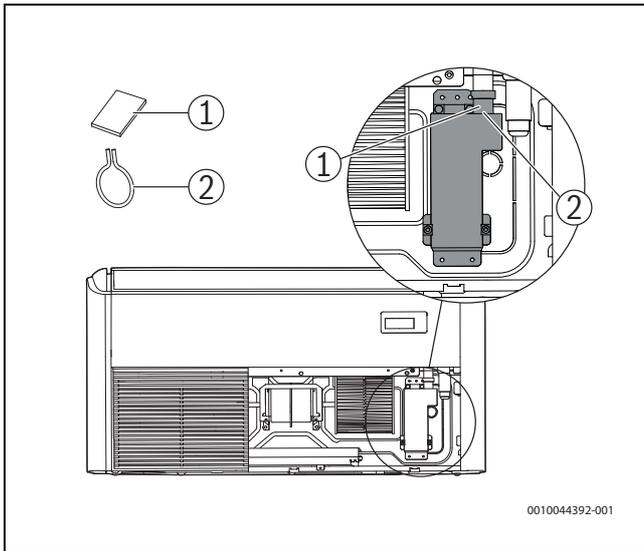

Fig. 2
- ▶ Remove the sponge (→ Fig. 2 [1]) attached at the water drainage outlet, then remove the clamp spring (→ Fig. 2 [2]).
- ▶ Remove the caps of the valves of a connection pair (→ Fig. 2 and 22, [1], [2] and [3]).